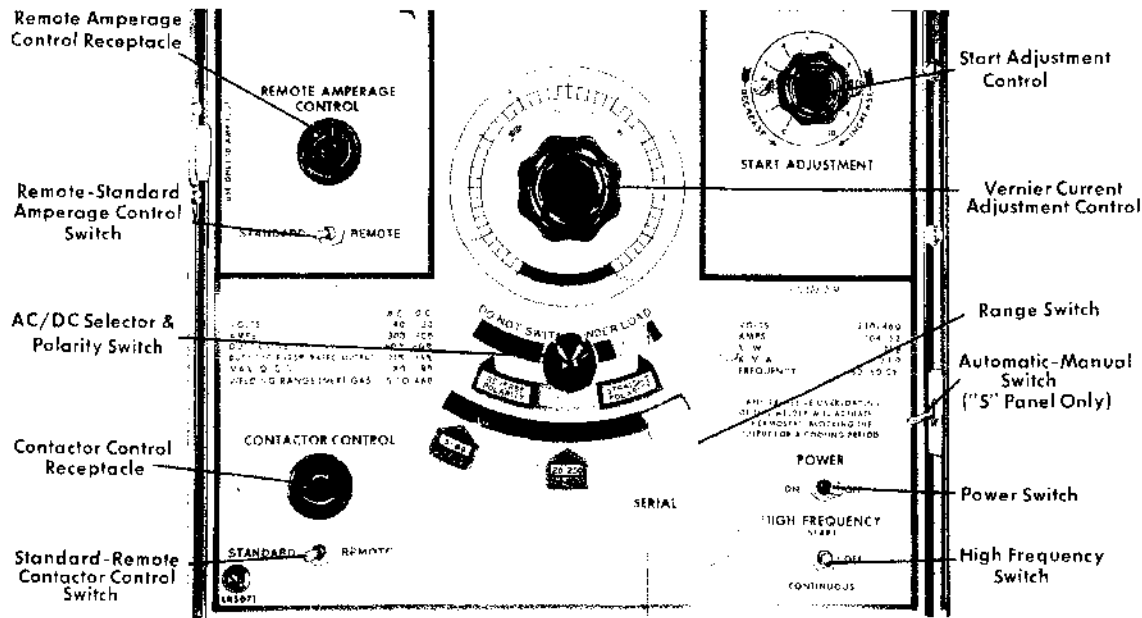
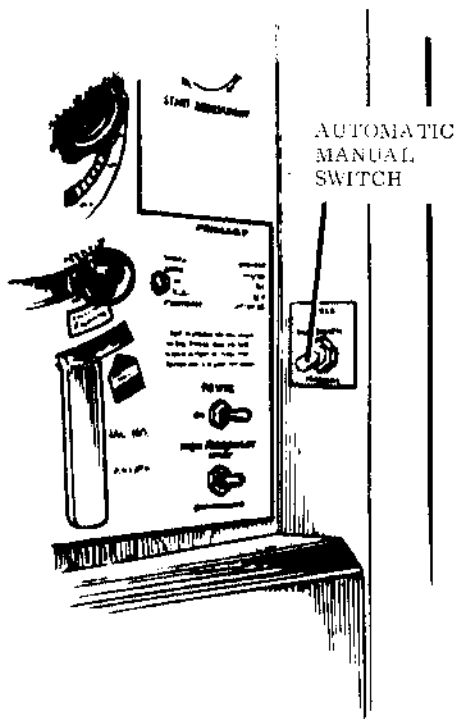
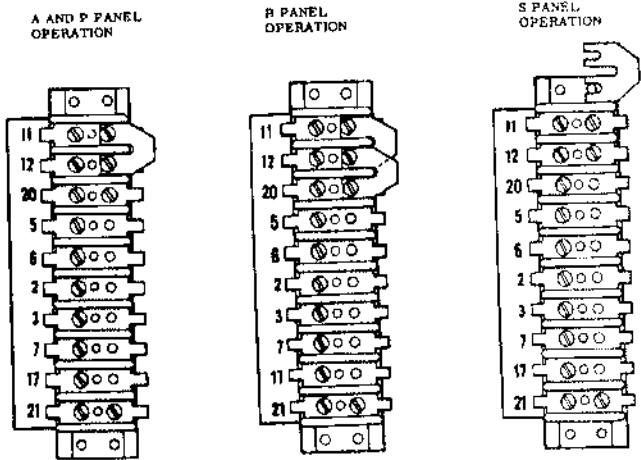

FIGURE 11 - CONTROL PANEL VIEW OF WELDING MACHINE
FIGURE 12 - AUTOMATIC-MANUAL SWITCH
FIGURE 14 - A/B/S PANEL CONNECTIONS
7. REMOTE AMPERAGE CONTROL CONNECTIONS (See Figure 11)
9. REMOTE CONTACTOR CONTROL CONNECTIONS (See Figure 11)
Changing position of links on terminal strip, located behind the right hand side panel, (Figure 14) gives choice of control on A/B and A/B/S models. "A" type control operates with maintained contact switch such as RHS-21, RFS-2 or RFC-23A which controls the closing and opening the contactor and the gas and water valves. The gas and water valves close after an adjustable time delay. This connection is for either manual or automatic welding. "B" type control operates with momentary contact normally open switch. Breaking the arc automatically shuts off power, gas and water. This is for manual welding only.
a. **WELDING CURRENT RANGES:** Select the welding current range desired, by adjusting the Current Range Switch (Figure 11) to one of the three current positions. Current ranges shown on the nameplate are Gas Tungsten-Arc ratings. Amperage output will be somewhat higher for ac and somewhat lower for dc Shielded Metal-Arc (Stick Electrode) Welding than that shown on the nameplate below the Range
- b. AC/dc SELECTOR AND POLARITY SWITCH: A three position Selector and Polarity Switch (Figure 11) permits the welding machine operator to select "ac", "dc STRAIGHT" or "dc REVERSE" Polarity. Place the switch in the proper position required for the welding application.
13 CONTACTOR CONTROL RECEPTACLE AND SWITCH (Figure 11)
14. AUTOMATIC - MANUAL SWITCH AND WELD TIMER (Models Equipped With S Panel Only) (Figure 12)
- Ea. When this switch is set to "AUTOMATIC" position, the welding machine may be used for Gas Tungsten-Arc Spot Welding. The Weld Timer located immediately below the High Frequency Intensity Control, behind the lower front access door, is used to control the spot weld time interval required. This timer is adjusted by turning the indicator to the desired welding time interval of zero to three (3) seconds.
15. HIGH FREQUENCY CONTROL AND SWITCH (Figures 11 and 13)
18. ON-OFF POWER SWITCH (Figure 11)
19b. "A" PANEL: (This type of operation is used for automatic welding) For "A" operation of A/B Panel (See Figure 14) the CONTACTOR CONTROL Switch must be in the "REMOTE" position. A normally open maintained contact switch, must be connected to the CONTACTOR CONTROL Receptacle. With this switch engaged, the contactor in the welding machine is energized, starting gas and water flow, full open circuit voltage (when no arc is established), high frequency is present (with the switch in either "Start" or "Continuous" position) and the Start Adjustment Control circuit is energized.
19c. "B" PANEL: This type of operation is used for manual welding. For "B" operation of A/B Panel (See Figure 14 for link position) the contactor control switch must be in the remote position. A momentary contact switch must be connected to the CONTACTOR CONTROL Receptacle. With this switch engaged the contactor in the welding machine is energized, starting gas and water flow, full open circuit voltage (when no arc is established), high frequency is present (with the switch in either "Start or Continuous" position) and the start adjustment circuit is energized.
□d. "S" PANEL: (A/B/SP Model Only) This type of operation is used for spot welding. When using the "S" Panel control (See Figure 14 for link position) it will be necessary to position the "Automatic-Manual" Switch as required. See Figure 12. With the "Automatic-Manual" switch in the "Manual" position, "A" control operation is possible. With the switch in the "Automatic" position, "S" control operation is possible. When using the "S" control for Gas Tungsten-Arc Spot Welding, it will be necessary to place the CONTACTOR CONTROL Switch in the "REMOTE" position. The weld timer, located behind front access door, is provided for automatic control of weld current time.
- b. For automatic controlled welding, connect the jumper links for "A" Panel operation as shown in Figure 14. Connect jumper links for "B" panel operation if manual control is desired. See Figure 14.
- welding machine and connect the jumper links for "S" panel control as shown in Figure 14.